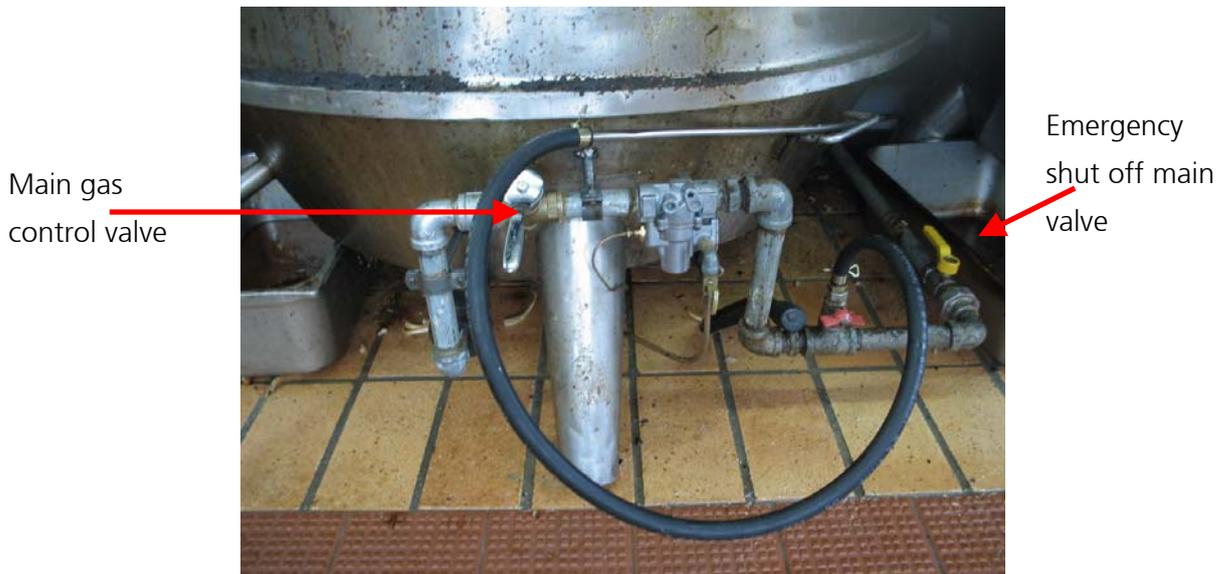

Figure 3 – Installation of emergency shut off main valve
- a. An emergency shut off main valve (see Figure 3) with label shall be installed for each roaster close to the main gas control valve in order to shut off the gas supply quickly during emergency situation.